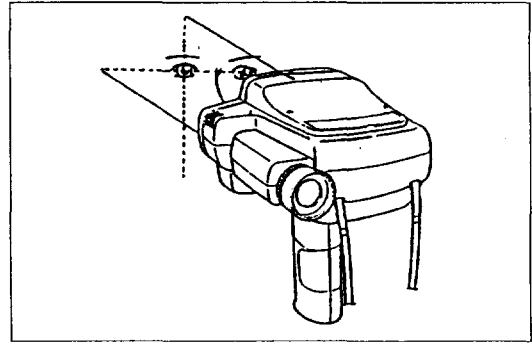

Figure 6-7
- ③ Rough alignment of the patient's eye (see Figure 6-7).